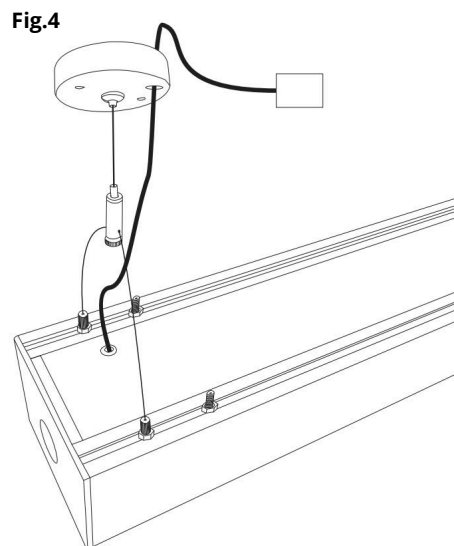

Fig.4
4. Connect the power wire to the main power supply (see Fig.4)